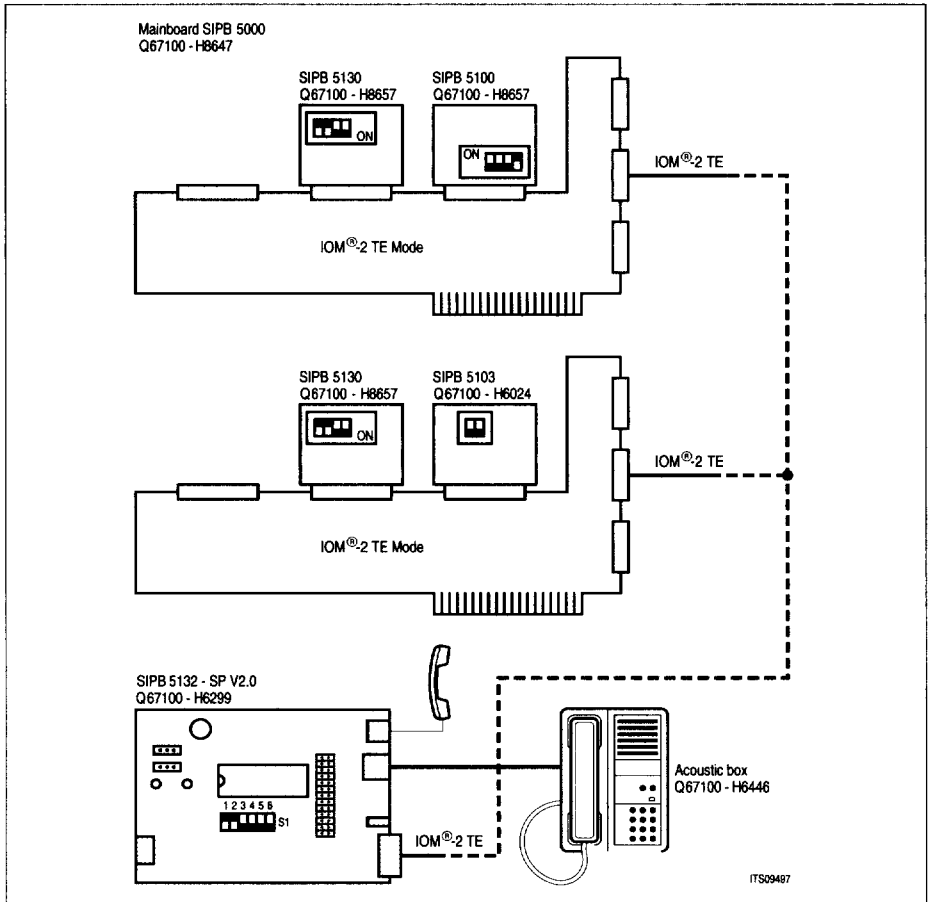

Figure 49
Figure 49 shows a typical example for a hardware setup based on the SIPB 5000 mainboard with the ISAC-S (TE) or the ISAC-P (TE) as a transceiver chip. The ARCOFI telephone board SIPB 5132-SP is connected via a flat-band cable to the IOM-2 connector that leads to the Audio Interface Module SIPB 5130. The interface mode used is the IOM-2-TE mode. Programming can be performed with the ARCOS software package or the SIPB menu-software which comes with the SIPB 5000 board. If two of the terminals in figure 49 are linked via a Mini-Switch SIPB 8100 a complete ISDN voice connection can be simulated (without D-channel protocol).
The following trackfile can be used with the setup shown in **figure 49**. It is written for the PSB 2163 but can be used with the PSB 2161 as well.